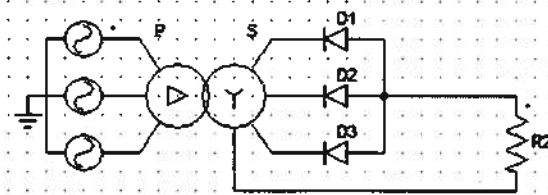

Figure 5. Diode rectifier circuit for question 18
18. The diode rectifier circuit in figure 5 is that of a